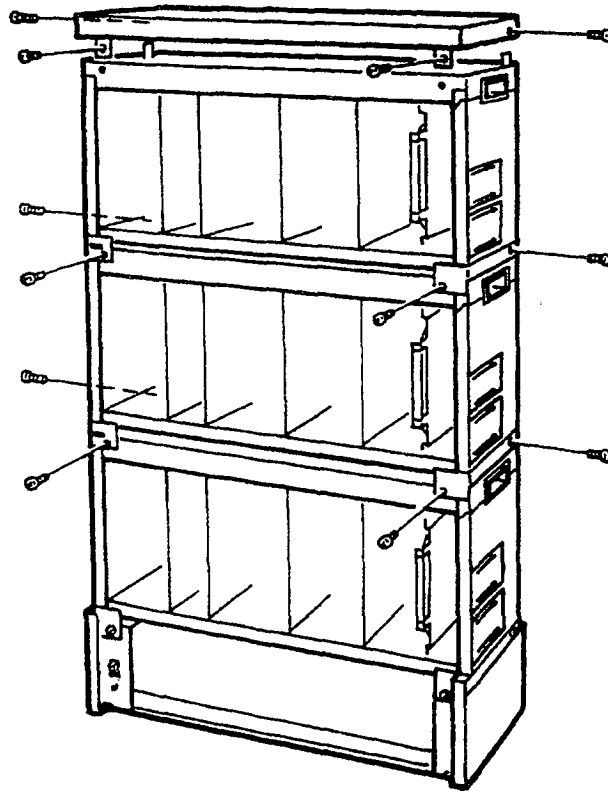

Figure 3-47 Attaching Each Level II Advanced Expansion KSU
4. Attach each Expansion KSU and top panel using the provided screws. Refer to Figure 3-47 - Attaching Each Level II Advanced Expansion KSU.